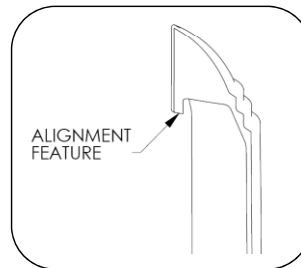

Fig.8a– Cabinet cover detail
2. Slide cabinet cover down so that alignment feature (see Fig. 8a) is inside the notch of the light cabinet housing and align the screw holes.